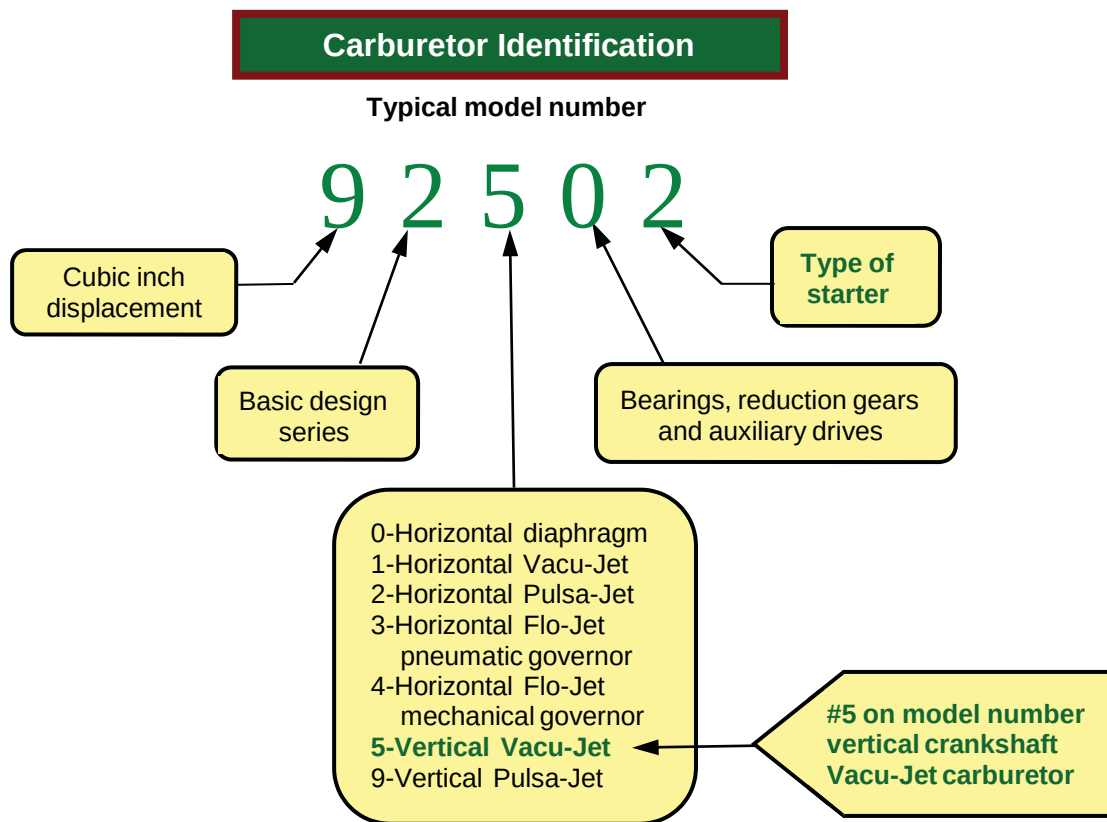
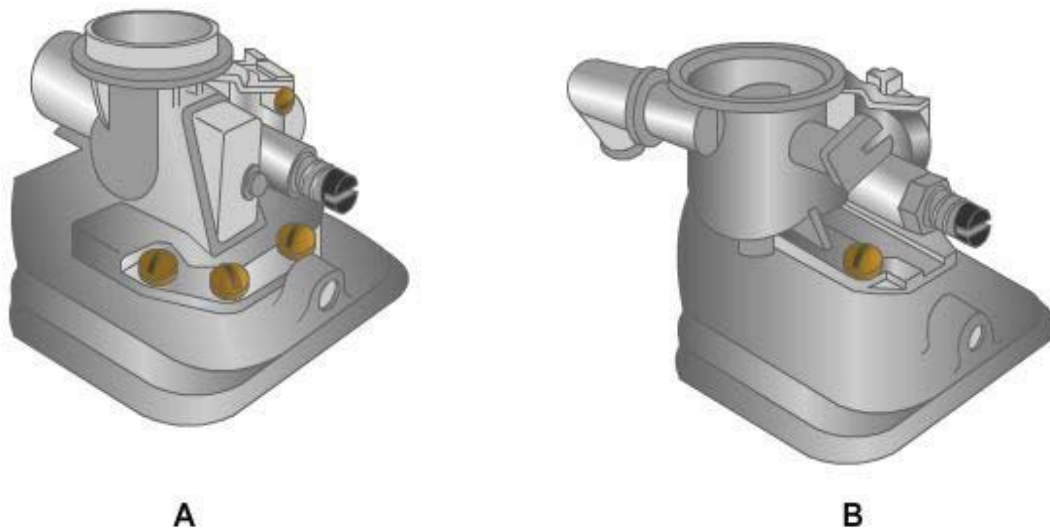

Figure 5-15 - Example of Briggs & Stratton Vacu-Jet identification by using the model number.
Figure 5-16 - Example of two Vacu-Jet models.
Vacu-Jet Identification. The easiest way to identify the Vacu-Jet design is to check the engine's model number, as shown in *Figure 5-15*. Another method is to recognize its appearance, but this could be difficult due to the design changes if you do not work on them often, as indicated in *Figure 5-16*. *Figure 5-16A* is a Vacu-Jet all-temperature carburetor with automatic choke. *Figure 5-16B* is a Vacu-Jet Choke-A-Matic. The most reliable method of identification is when the carburetor is separated from the fuel tank and only one pickup tube is present.
Pulsa-Jet identification. Just as with the Vacu-Jet carburetor, identification of the Pulsa-Jet is by using the model number. Using the example in *Figure 5-15* for Pulsa-Jet, the center number (5) will change to either a 2 for horizontal crankshaft or 9 for vertical crankshaft. The other method again is by visual recognition if you are that familiar with the various models.